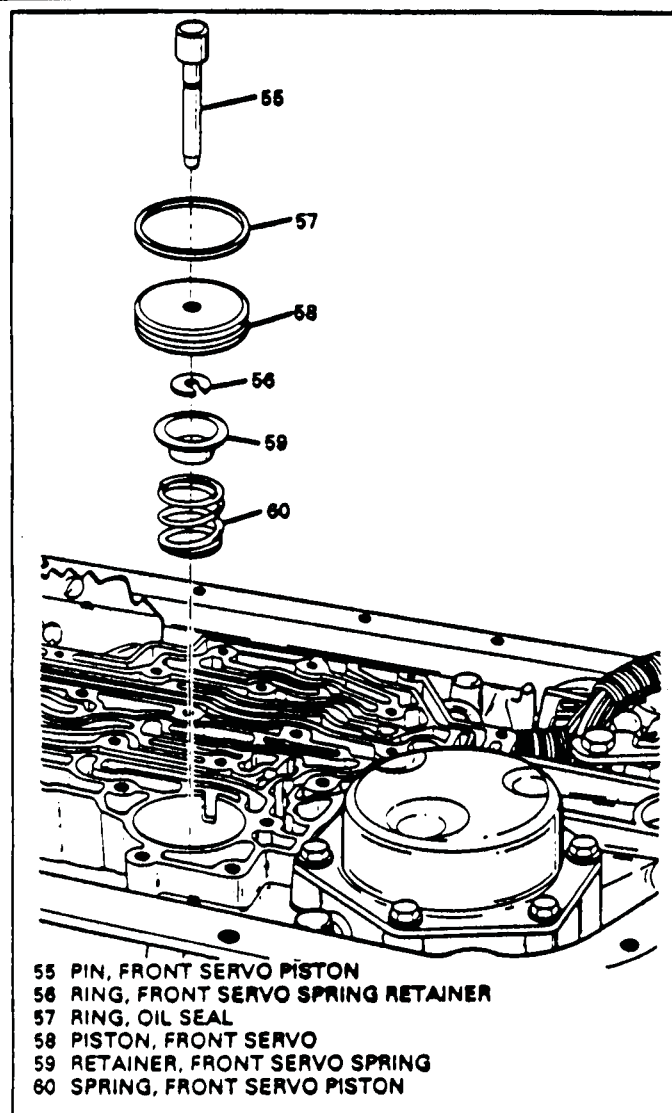

Figure 40
23. Remove the intermediate (D2) servo assembly from the case bore (Figure 40).